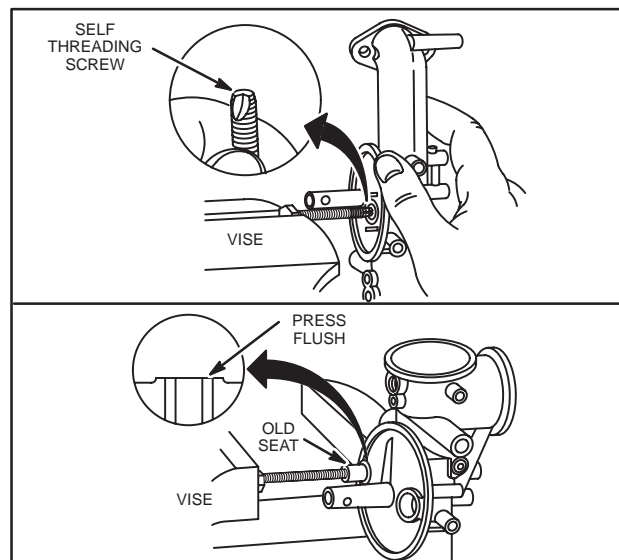

Fig. 263 – REPLACING FLOAT VALVE SEAT
2. Turn carburetor body to thread screw or screw extractor into seat, Fig. 263.
5. Press new seat flush with body using screw/screw extractor and old seat as driver, Fig. 263.